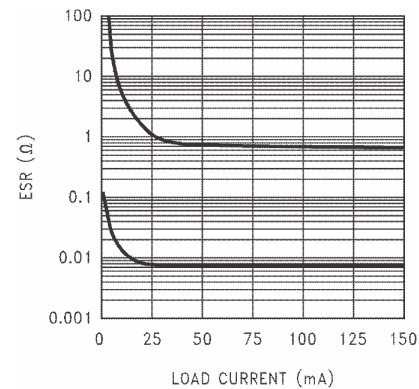
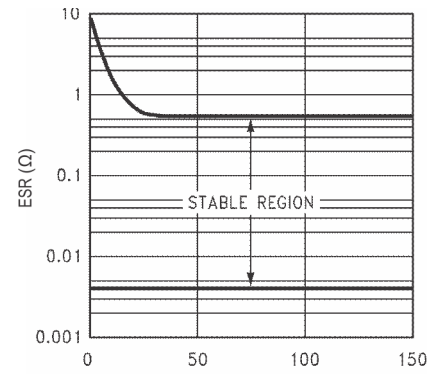

图 5-36. 2.2- $\mu\text{F}$  Stable ESR Range for Output Voltage  $\leq 2.3\text{ V}$  for Legacy Chip
图 5-38. 2.2-  $\mu\text{F}$ , 3.3-  $\mu\text{F}$  Stable ESR Range for Output Voltage  $\geq 2.5\text{ V}$  for Legacy Chip
- ESR range: see 图 5-36 through 图 5-38